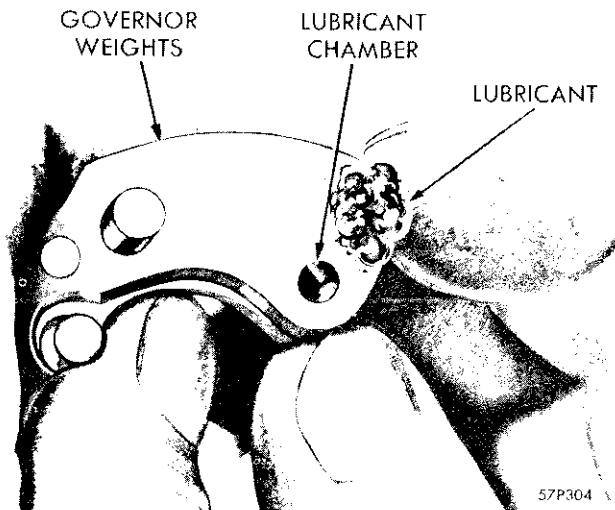

Fig. 34—Lubricating the Governor Weight
(1) Check operation of centrifugal weight and check the weight springs for distortion. Lubricate the governor weights (Fig. 34).